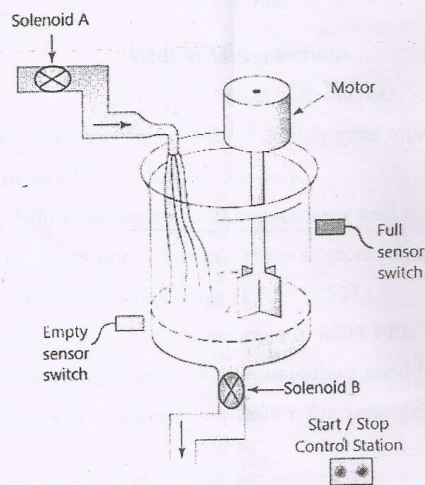

Figure. 16 (a)
- (b) Write a program to implement the process illustrated in Figure 16 (b). A company that makes electronic assembly kits needs a counter to count and control the number of resistors placed into each kit. The controller